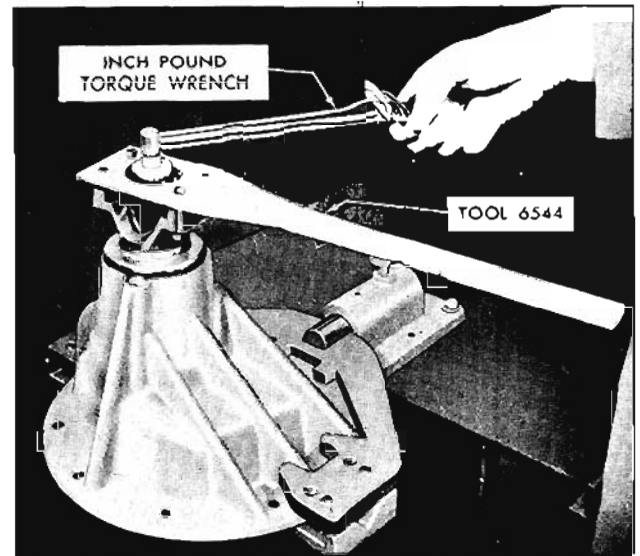

Fig. 10-19 Measuring Bearing Pre-Load
1. Check pinion bearing pre-load with an inch-pound torque wrench as shown in Fig. 10-19. Pre-load should be within 10 to 15 in. lbs. for old bearings, 24 to 32 in. lbs. for new bearings.